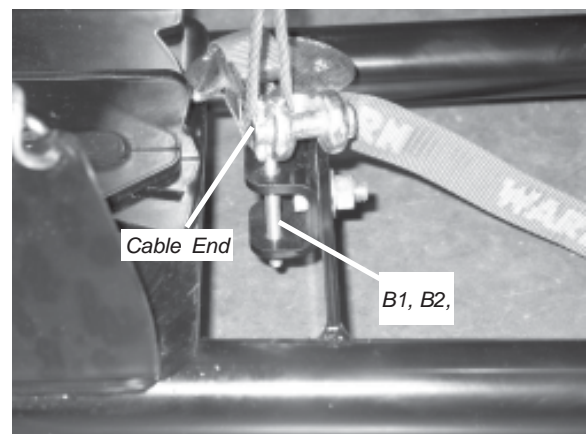

Figure 8
16. Tighten the J-Bolt onto the J-Bolt Bracket by placing a 1/4" Washer (B5) over the end of the J-Bolt and attaching a 1/4" Nylock Nut (B9). Tighten the nylock nut until the cable loop is firmly pressed against J-Bolt bracket. The completed assembly should look like Figure 8.